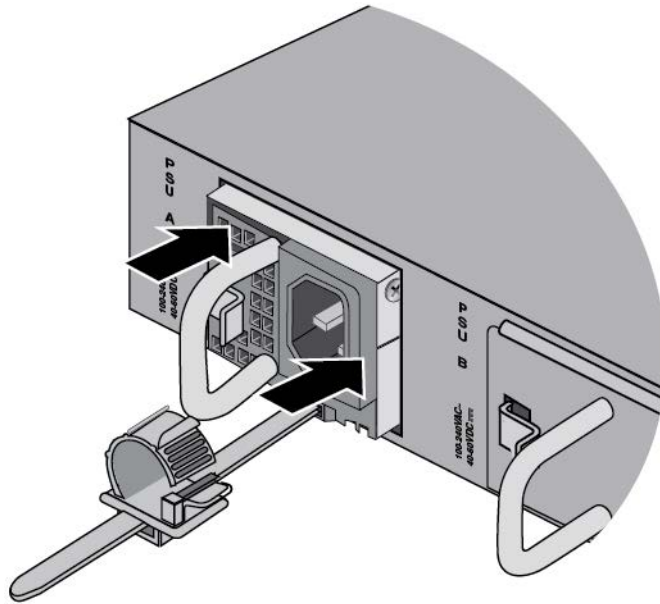

Figure 40. Seating the Power Supply on the Internal Connector
4. When the power supply makes contact with the connector inside the switch, gently press on its faceplate to seat it on the connector. Refer to Figure 40 on page 103.